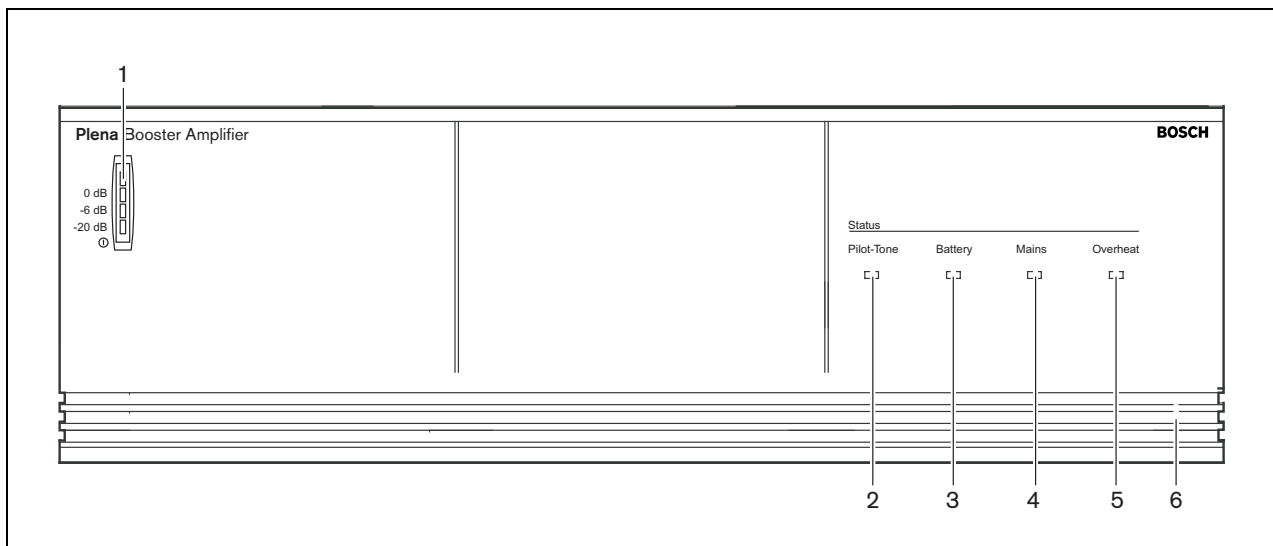

figure 5.2: Front panel LBB1938/20
If mains power or back-up power is available, the VU-bar (1) on the front of the power amplifier is lit and shows the output level of the amplifier (see figure 5.2). If the internal temperature reaches a critical limit due to poor ventilation or overload, an overheat protection circuit switches OFF the power stage. The Overheat indicator (5) shows on the front panel and a signal is given on the Input fault relay if the power stage is switched OFF by the overheat protection circuit.